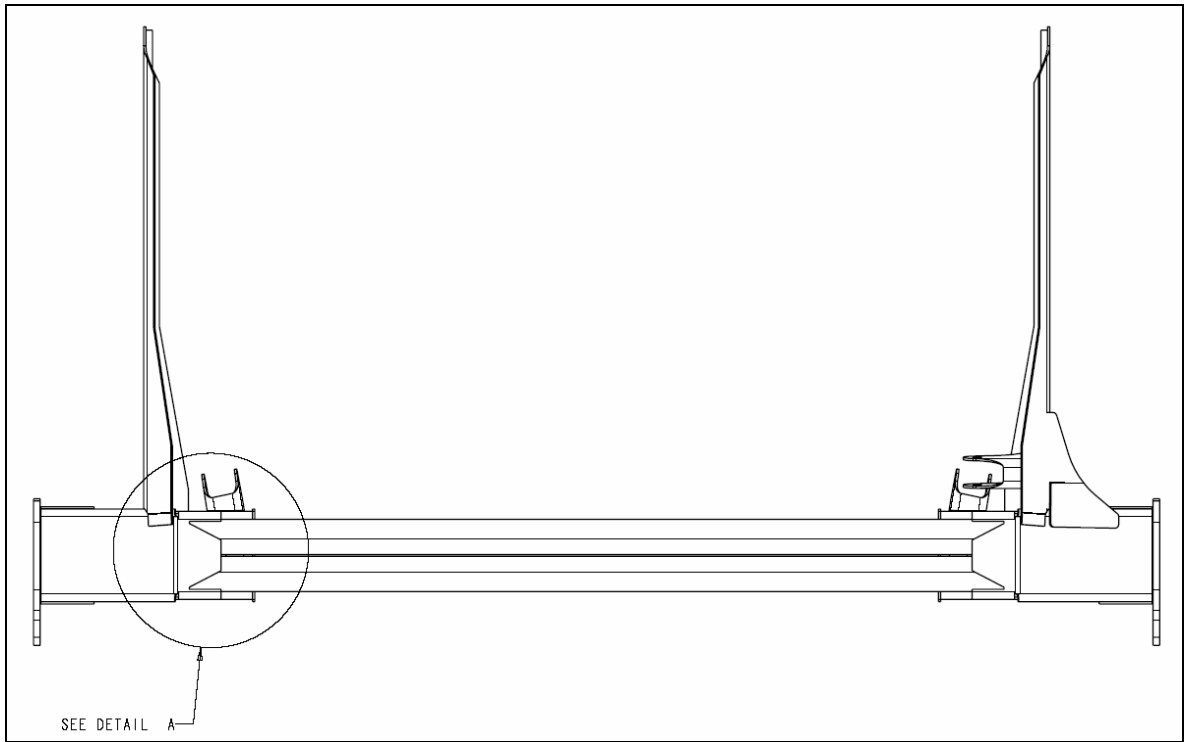
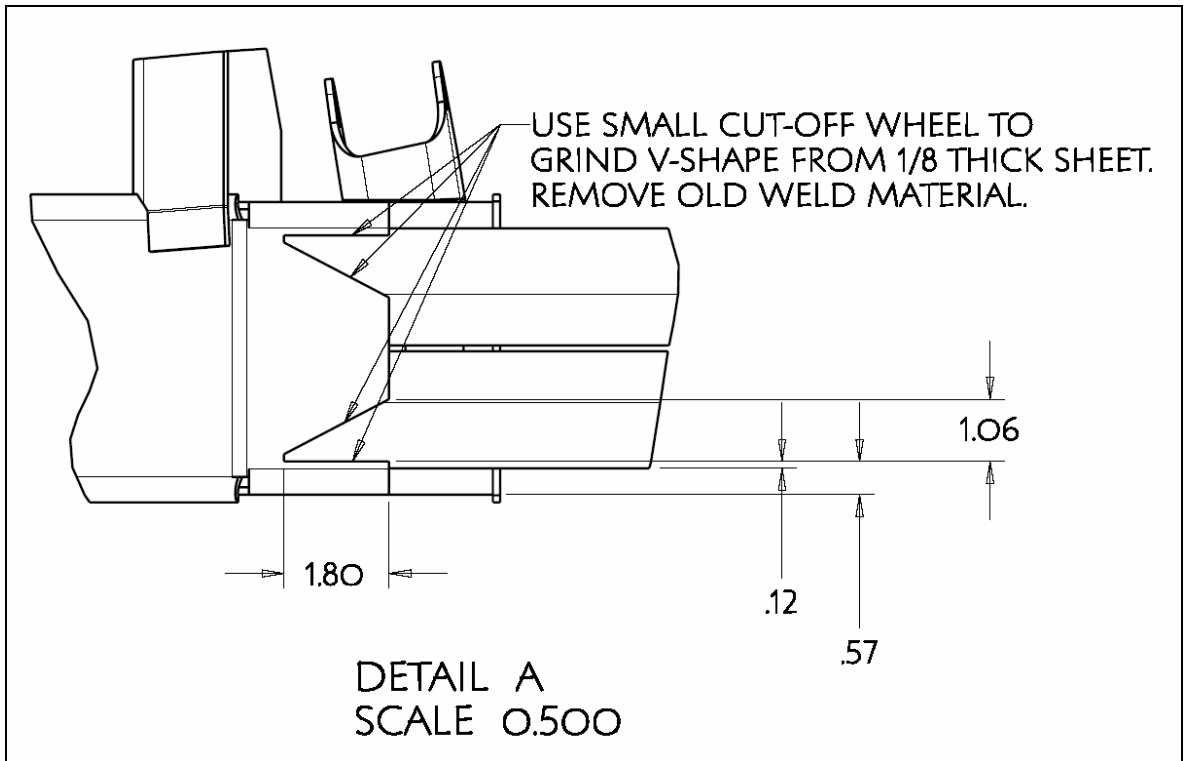

Figure 2: New triangular weld area
Figure 3: Triangular Cut-out Dimensions
- b. After completing 4 welds, trace out triangular cut-outs on the bottom of the axle shown in Figure 2. Grind away 4 original welds from the bottom of the axle and make triangular cut-outs in the 1/8 in. housing material (minimize cut depth into 3/16 in. channels) according to the dimensions shown in Figure 3 using small cut-off grinding wheel.